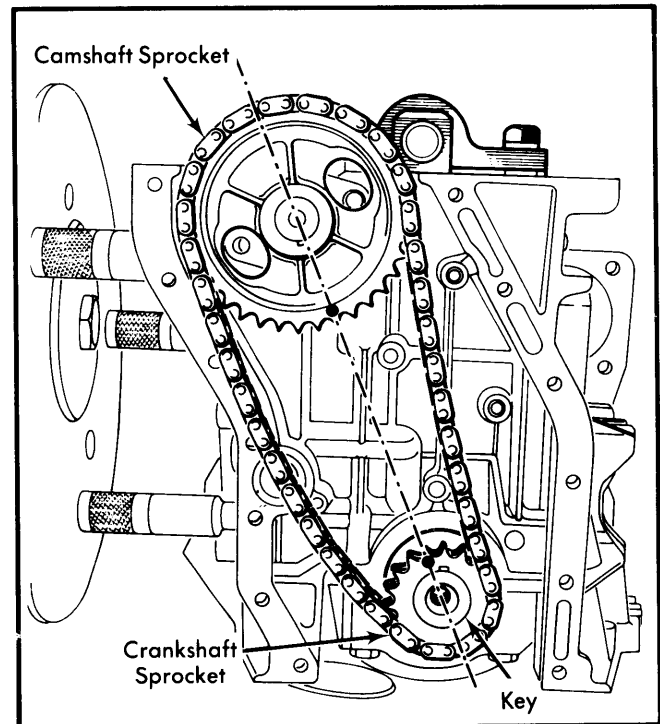

Fig. 8 Alignment of Camshaft and Crankshaft Sprockets
Installation — 1) Lubricate the camshaft bearings and slide the camshaft in, but not all the way. Place the chain over the camshaft sprocket. Line up the mark on the sprocket with center of the crankshaft and camshaft. See Fig. 8.
2) Place the key on the crankshaft. Rotate the crankshaft to bring the key to the top. Place the crankshaft sprocket on the chain. The timing mark must line up with the camshaft sprocket mark as well as the center of the camshaft and crankshaft. See Fig. 8.